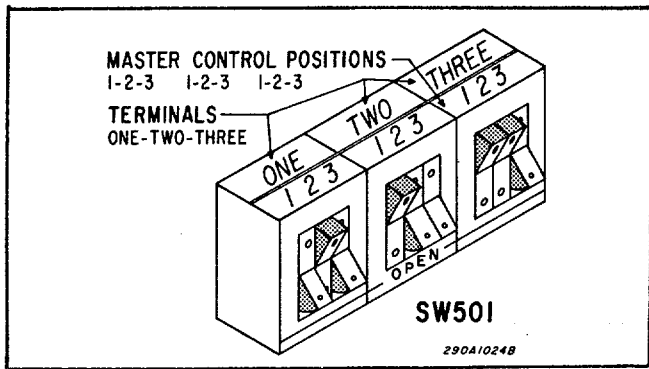

Figure 3-9. MASTER Switch Programming.
To program the example described in steps A and B of this paragraph, close switches ONE-1 and ONE-3 to program terminal 1 (flashing lights) for MASTER positions 1 and 3, respectively. Close TWO-2 and TWO-3 to program terminal 2 (rotating lights) for positions 2 and 3 respectively. Close THREE-3 to program terminal 3 (optional flasher) for MASTER position 3 (see figure 3-9).
D. Program the MASTER switch by depressing the appropriate sections of SW501 with a pencil point or similar pointed tool, As indicated in figure 3-9, the switch contacts are closed when the upper half of the rocker is pressed. Any combination of terminals can be controlled by any given MASTER switch position.